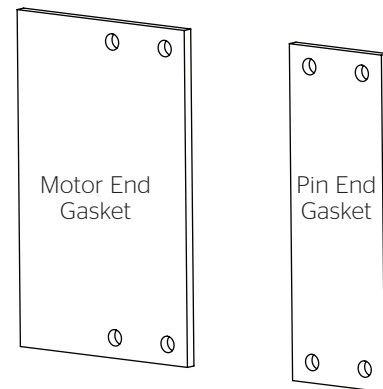
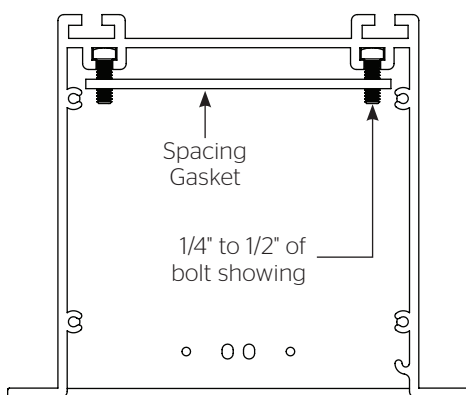

Figure 5 - Spacing Gaskets
Figure 6
3. Place the two spacing gaskets (shown in Figure 5) on the bracket bolts with $\frac{1}{4}$ " - $\frac{1}{2}$ " of the bolts showing through the bottom (Figure 6).